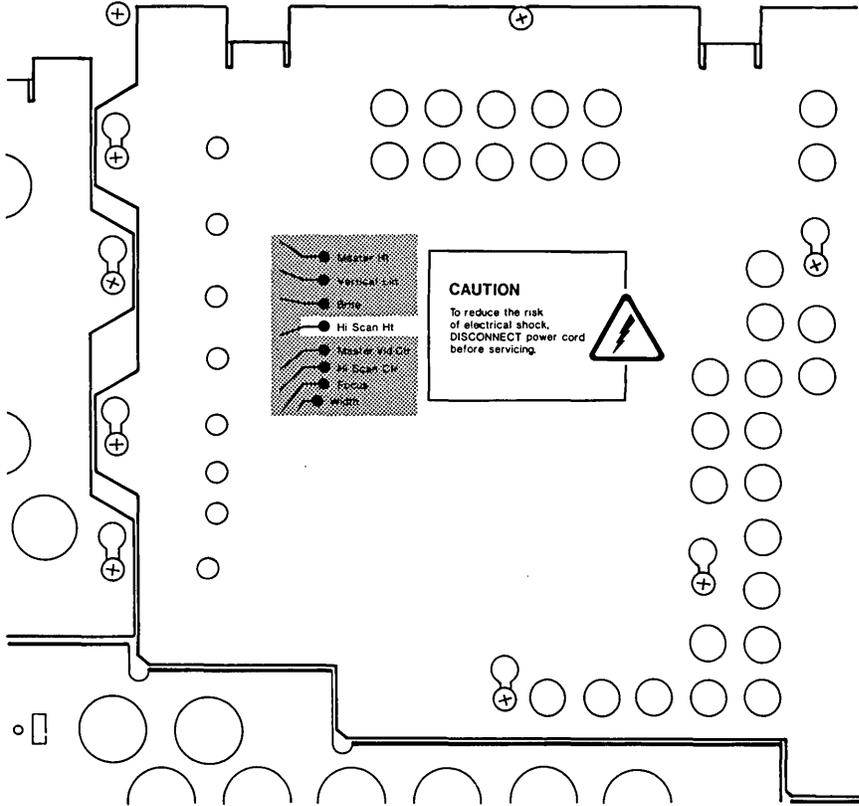

Figure 7-9. VDU Assembly Access Plate - HI SCAN HT Control.
Step 13 - Using the label on the VDU Assembly access plate as a guide (see Figure 7-9), locate and adjust the HI SCAN HT control until the top and bottom of the screen display are within minimum specifications. Use the plastic screen template provided with this manual to determine proper screen display specifications.